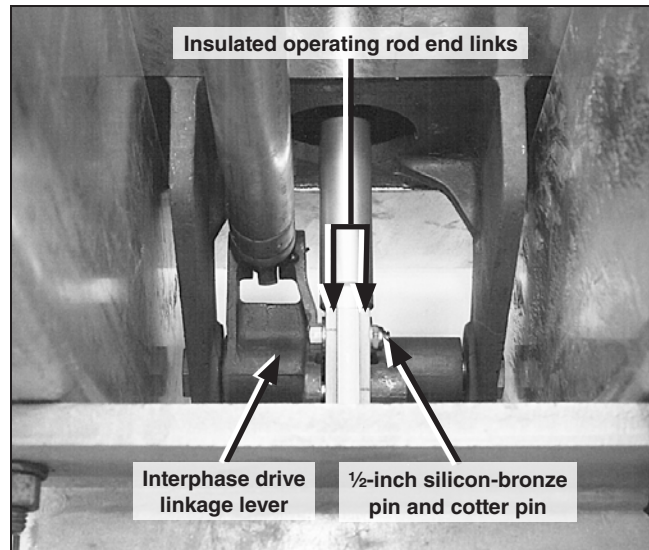

Figure 13. Attaching the insulated operating rod to the interphase drive.
- (d) Attach the insulated operating rod end links to the interphase drive linkage lever in the high-speed base using the $\frac{1}{2}$ -inch silicon-bronze pin and cotter pin retained from Step 1(d) on page 16. See Figure 13. The insulated operating rod may be moved up or down, as required, to make the connection.